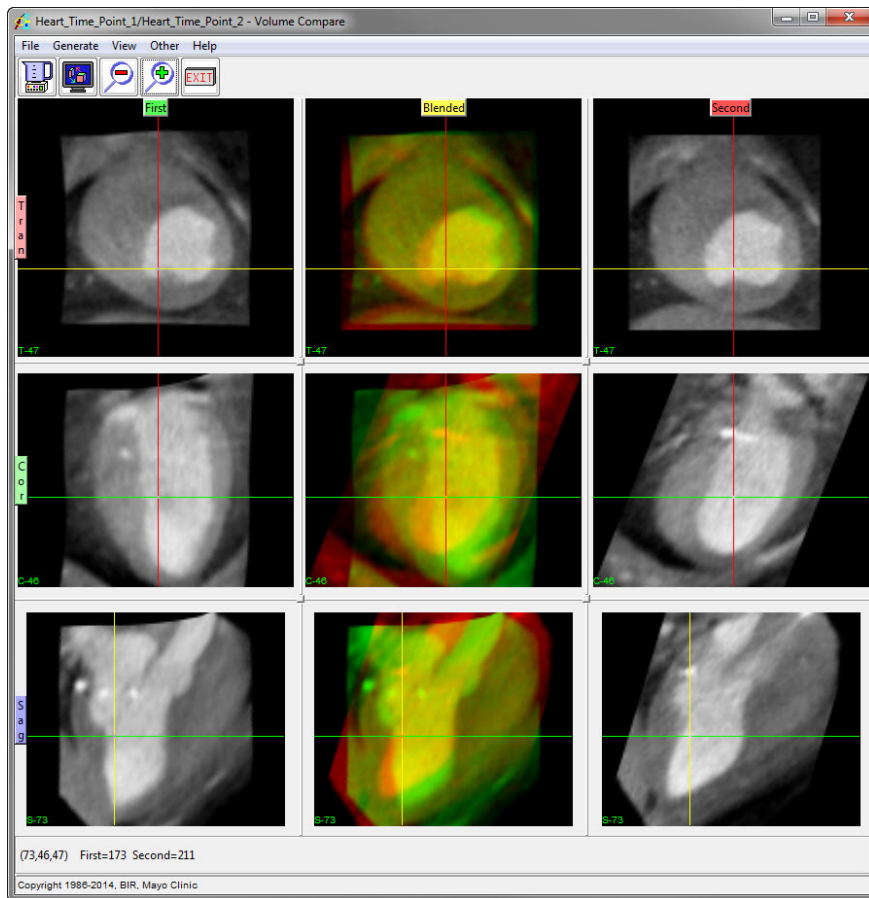
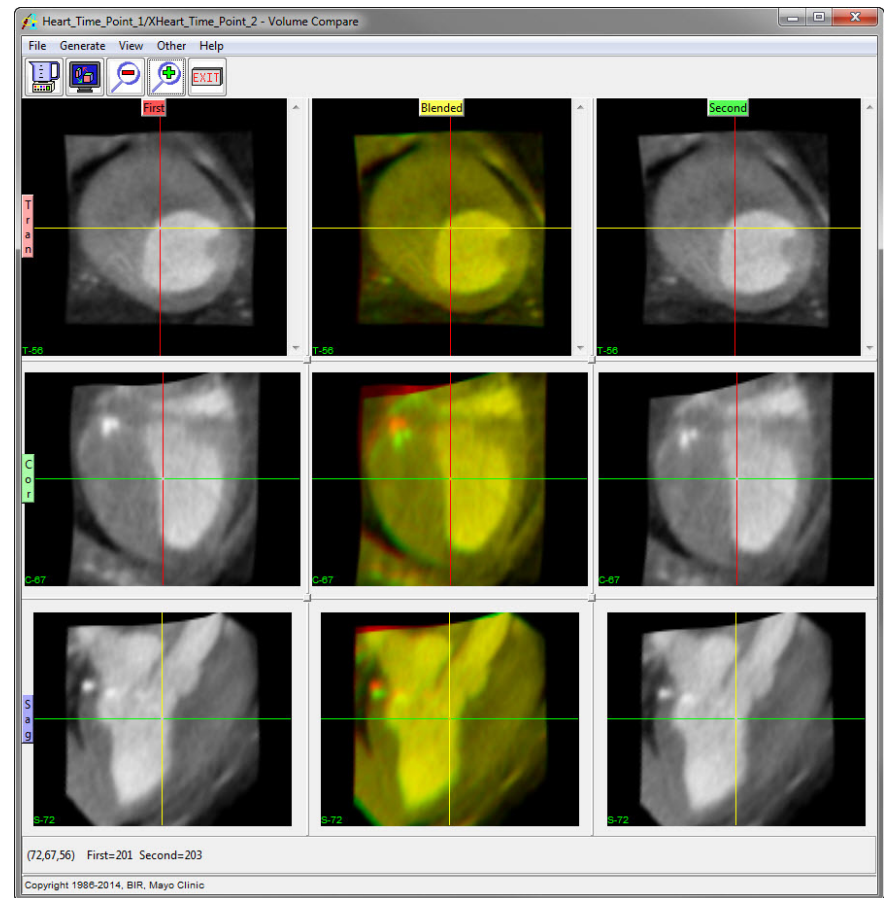

Figure 4
Figure 5
12. Use the Volume Compare module to compare the original **Heart_Time_Point_1** and **Heart_Time_Point_2** data sets (figure 4). Then compare the original **Heart_Time_Point_1** and the transformed **Heart_Time_Point_2** data set (figure 5).